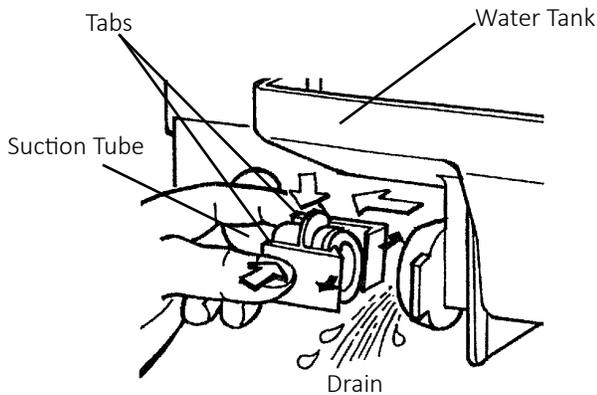

Fig. 24
7. Inside the storage bin, disconnect the suction tube by squeezing the tabs and pulling the tube clear. See Fig. 24. Allow the water tank to drain.